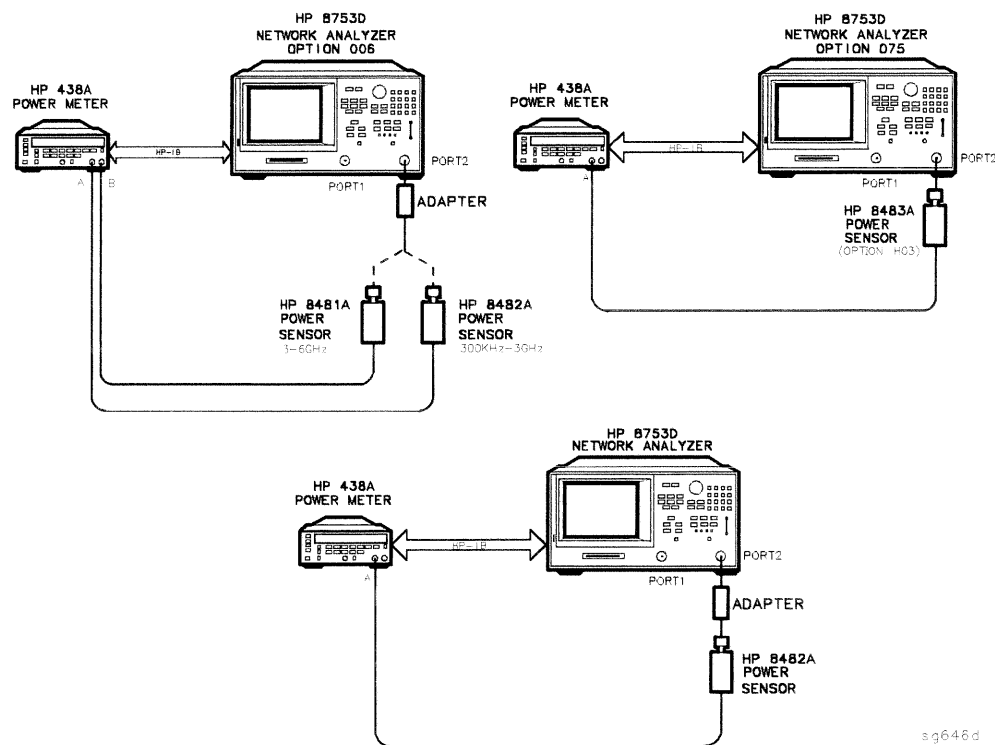

Figure 3-8. Connections for Sampler Correction at Port 2
20. When the analyzer displays **CONNECT <3 GHz SENSOR A TO PORT 2**, make the connections as shown in Figure 3-8.